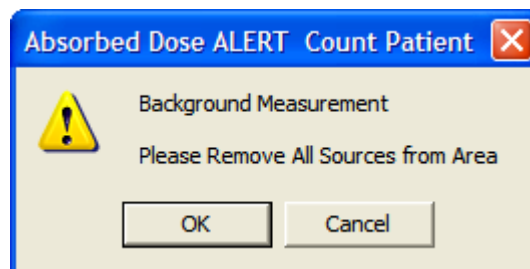

Figure 7-22
4. Click the **Background** button or press *Alt+B* to measure background. Figure 7-22 will appear.